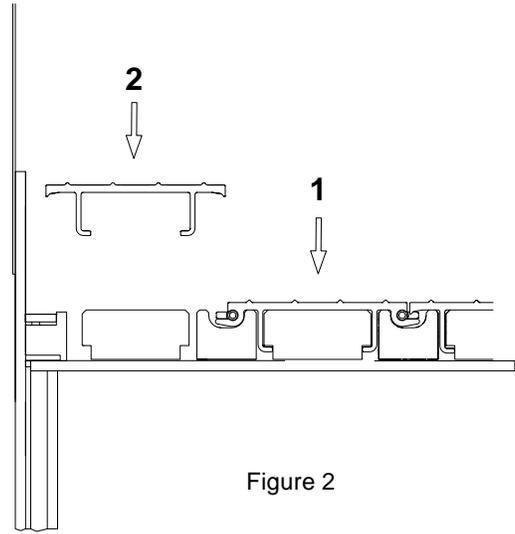

Figure 2
4. See the next page for installing the slats onto the sub-deck. Note: The lower slats must be installed before installation of the upper slats (see Figure 2).